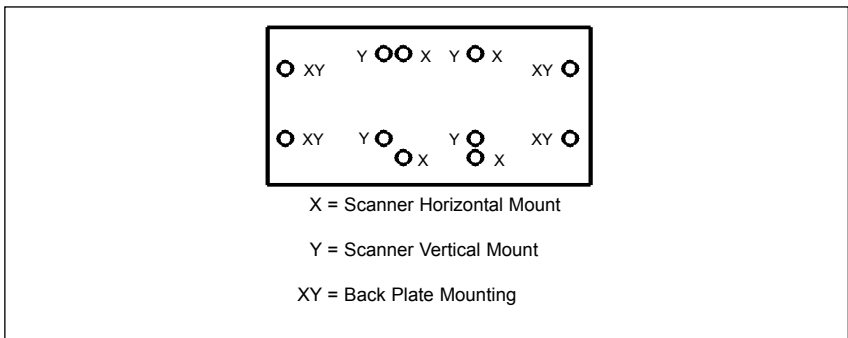

Figure 5: Back Plate Hole Pattern
1. Drill four holes into the work surface that correspond with the holes indicated by an XY in Figure 5.
- For a *horizontal mount*, align the four holes on the back of the scanner with the four clearance holes located on the back plate marked with an X in Figure 5.
- For a *vertical mount*, align the four holes on the back of the scanner with the four clearance holes located on the back plate marked with a Y in Figure 5.